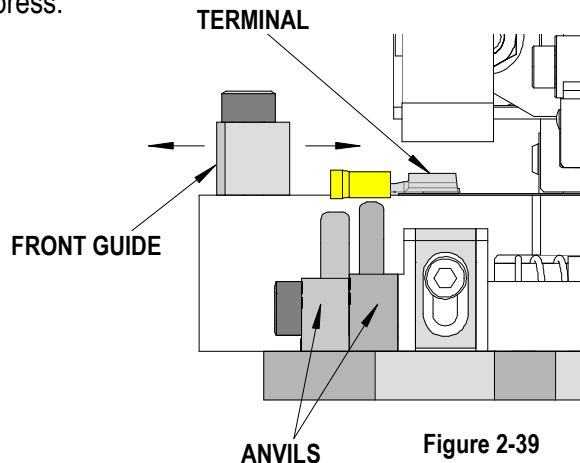

Figure 2-39
4. With taped product loaded in the track, adjust the front guide up to the product so its running surface contacts the terminals. See Figure 2-39.
6. When the guide adjustment is complete, tighten the (2) M4 SHCS to secure the guide to the track.